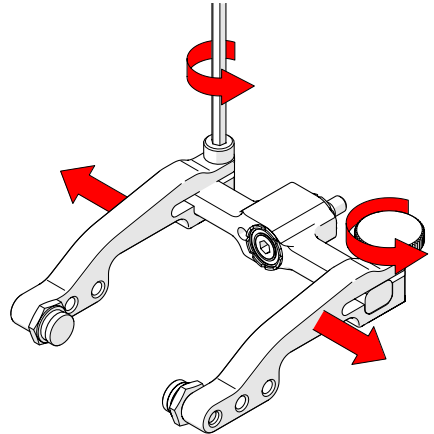

Fig. 131 - Remove arms
2. Loosen the probe holder arm adjustment knob and arm clamp screw. Slide the arms from the yoke (Fig. 131).